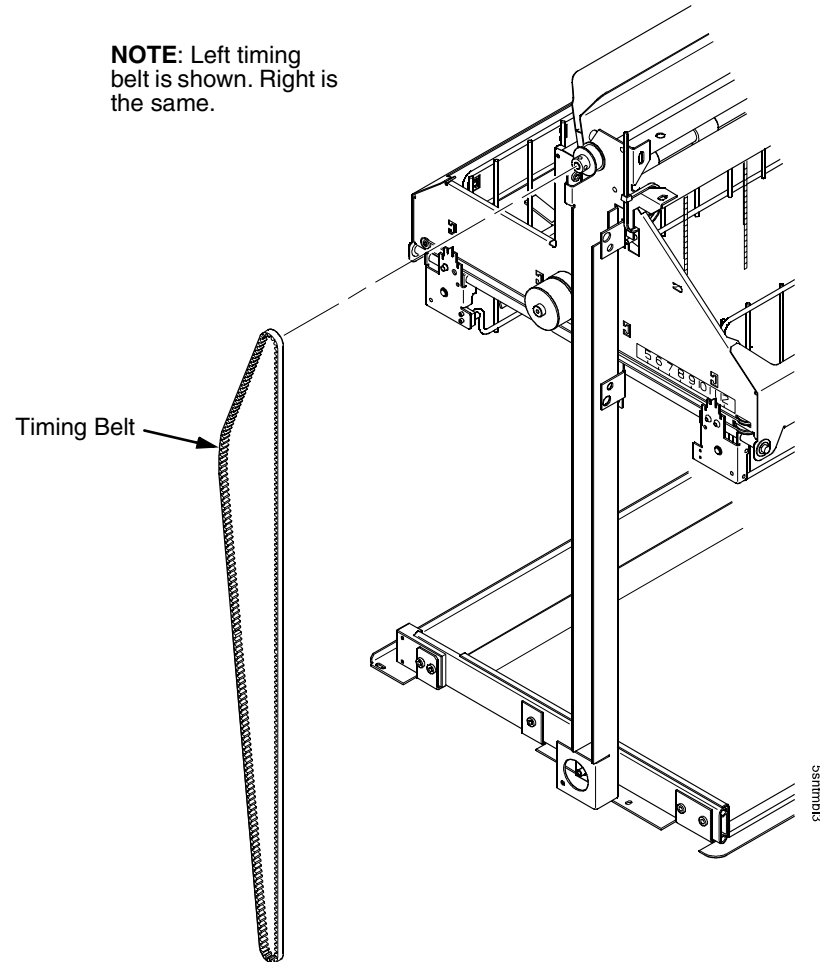

Figure 88. This figure shows how to remove the timing belt.
8. Remove the timing belt by working it around the vertical rail and constant force spring. (Figure 88.)